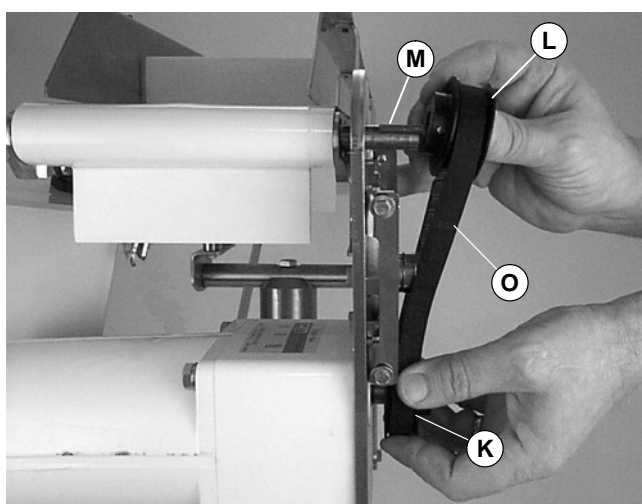

Figure 5
4. Install key (M of Figure 5).